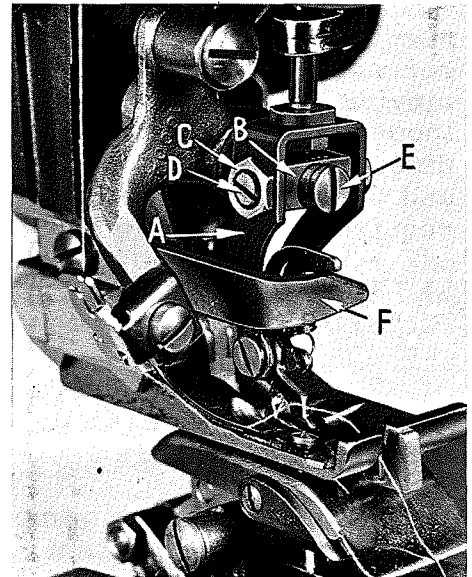
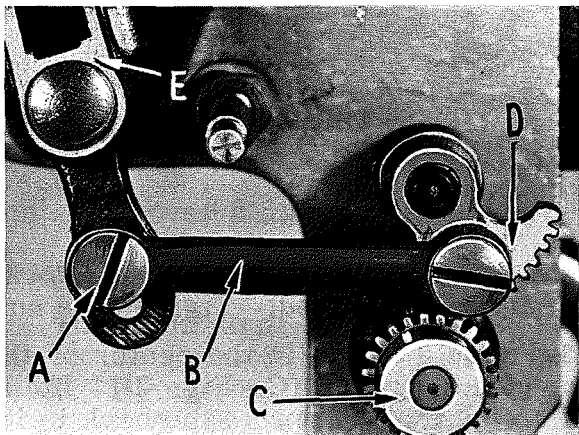

Fig. 8
Fig. 9
Before making any adjustment to the looper spreader mechanism, check for excessive play between the looper frame (A, Fig. 8) and the bearing block (B). If excessive play is encountered, it can be removed by loosening nuts (C) and positioning the cone screws (D) accordingly.
mechanism up or down on both sides of its stroke remove gear cover at back, loosen nut on screw (A, Fig. 9) and slide the link (B) up to raise looper or down to lower it. If the looper spreader mechanism is too close to the needle on one side and too far away on the other loosen the two set screws in gear (C), insert a screwdriver in screw (E, Fig. 8) and turn in the required direction. Turning the screw in a clockwise direction lowers looper on right side of stroke and raises looper on the left side of stroke. Turning screw in a counterclockwise direction acts the reverse. Tighten the set screws.
Looper opener (F, Fig. 8) should be set so that the bottom of the looper spreader point clears the needle by approximately  $1/32$  inch when the looper spreader mechanism is in the left hand position and moving to the back. To make this adjustment, remove looper opener from machine and bend in the required direction. Check for clearance between the opener and the looper frame (A). Bend the looper opener as required. Assemble the opener to the machine.